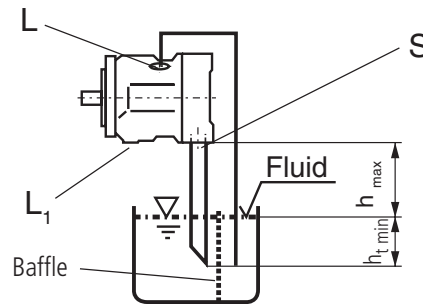

Fig. 4
b) If the minimum fluid level is equal to or below the top of the pump, pipe ports "L" and possibly "S" as Fig. 4.; close port "L1". The conditions according to item 1.2.1.
a) When mounting above the reservoir, see Fig. 4.